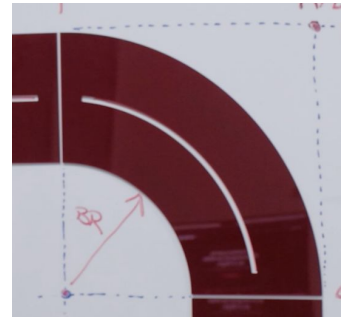

Figure 1.7
- **Bend Radius (BR):** The bend radius is measured on the inside of the bend, the region under compression (see Figure 1.7).